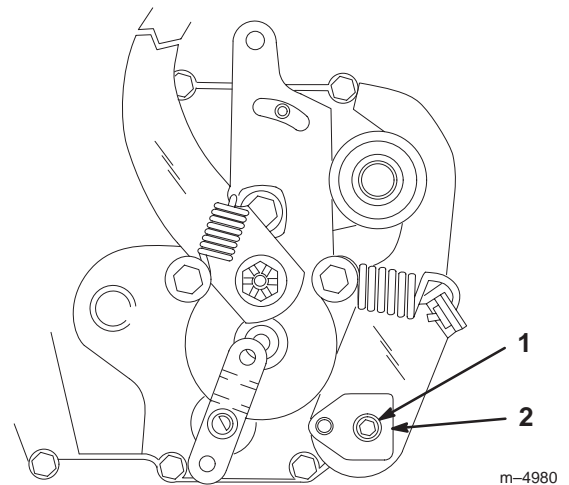

Figure 8
Note: To gain access to the adjusting puck (Fig. 8), you may need to remove the tire.
6. Loosen the adjusting puck screw (Fig. 8).
8. Rotate the adjusting puck (Fig. 8) in both directions until you find the midpoint where the axle no longer rotates forward or reverse.